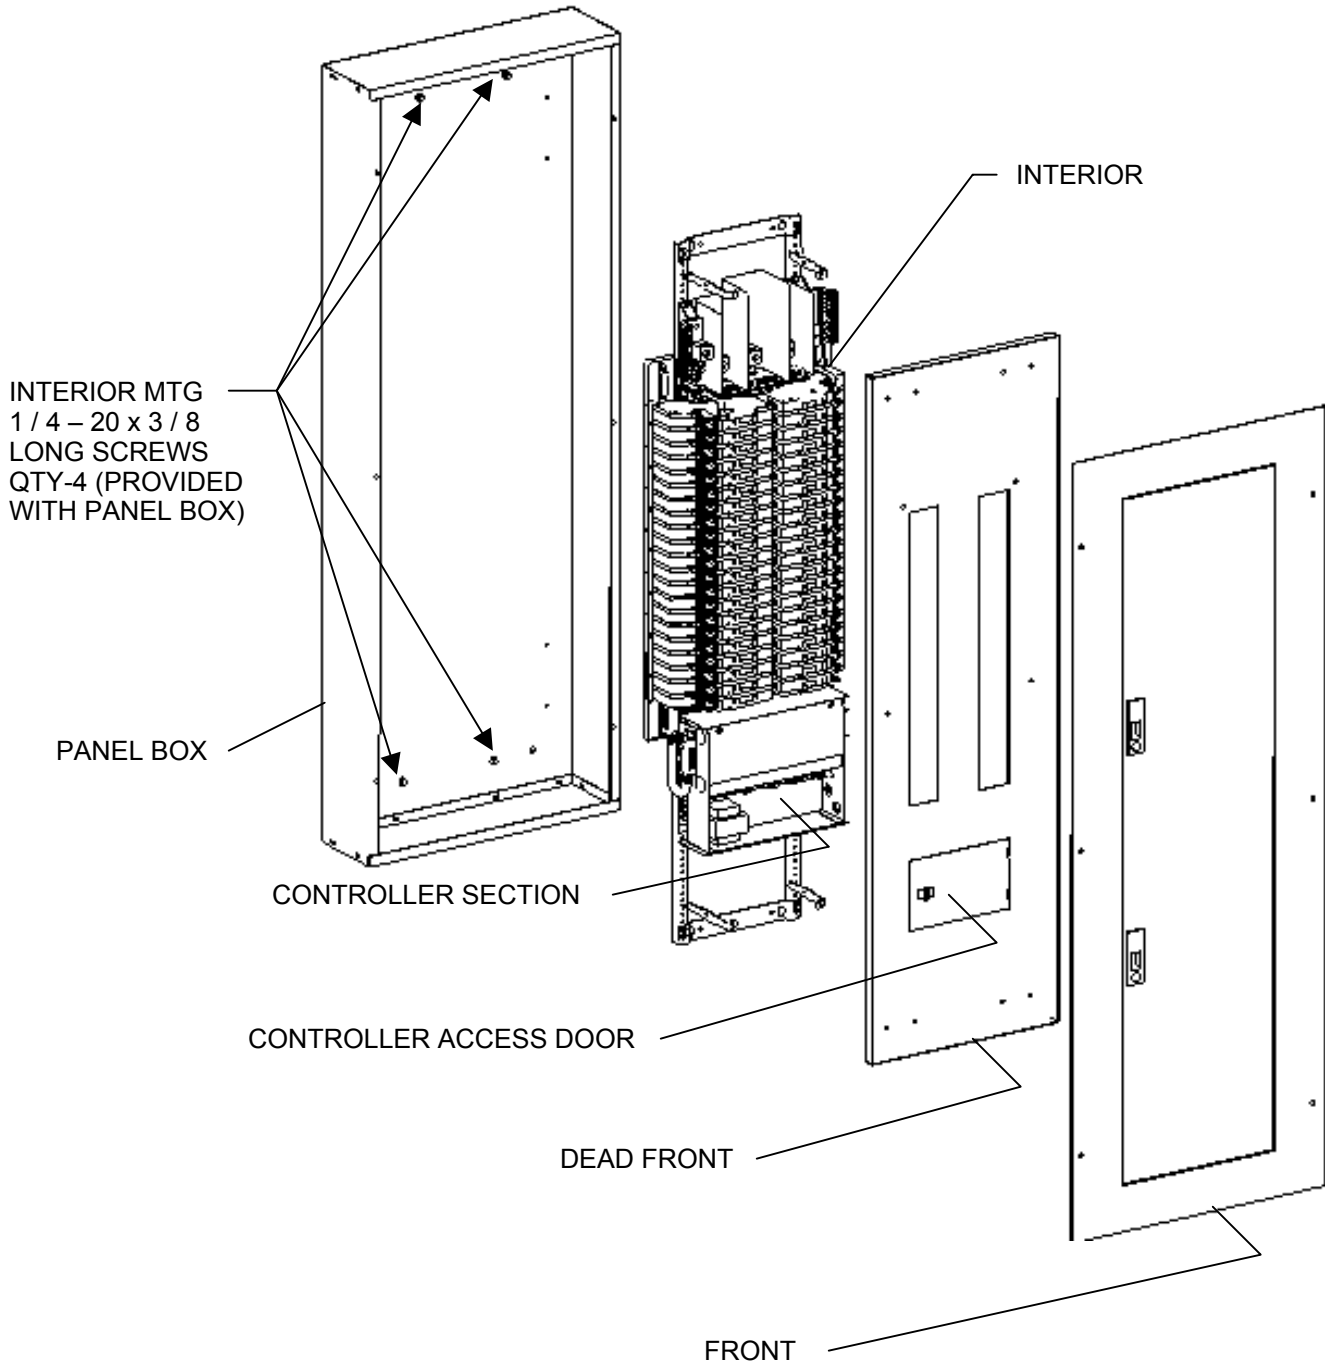

Figure 1
1. Confirm the contents and circuit layout of the panel Interior and mounting hardware. Figure 1 illustrates the parts included in this panel Interior, which are listed in Figure 1.
2. Locate the interior end flange keyhole mounting holes to the corresponding mounting bolts already in place on the inside surface of the panel enclosure as shown in Fig 1. Tighten all 4 screws